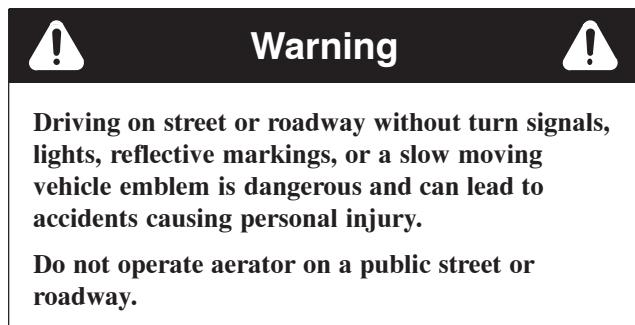

Figure 33
- Securely fasten the aerator tie downs (Fig. 33–35) to the trailer or truck with straps, chains, cable, or ropes.